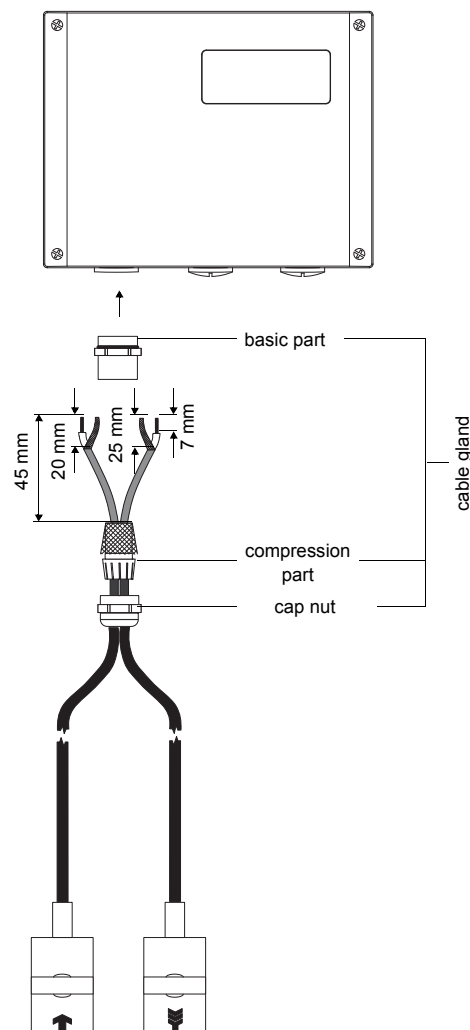

Fig. 6.5: Transducers – direct connection
- Remove the left blind plug for the connection of the transducer cable (see Fig. 6.5).
- Remove the left blind plug for the connection of the transducers (see Fig. 6.5).